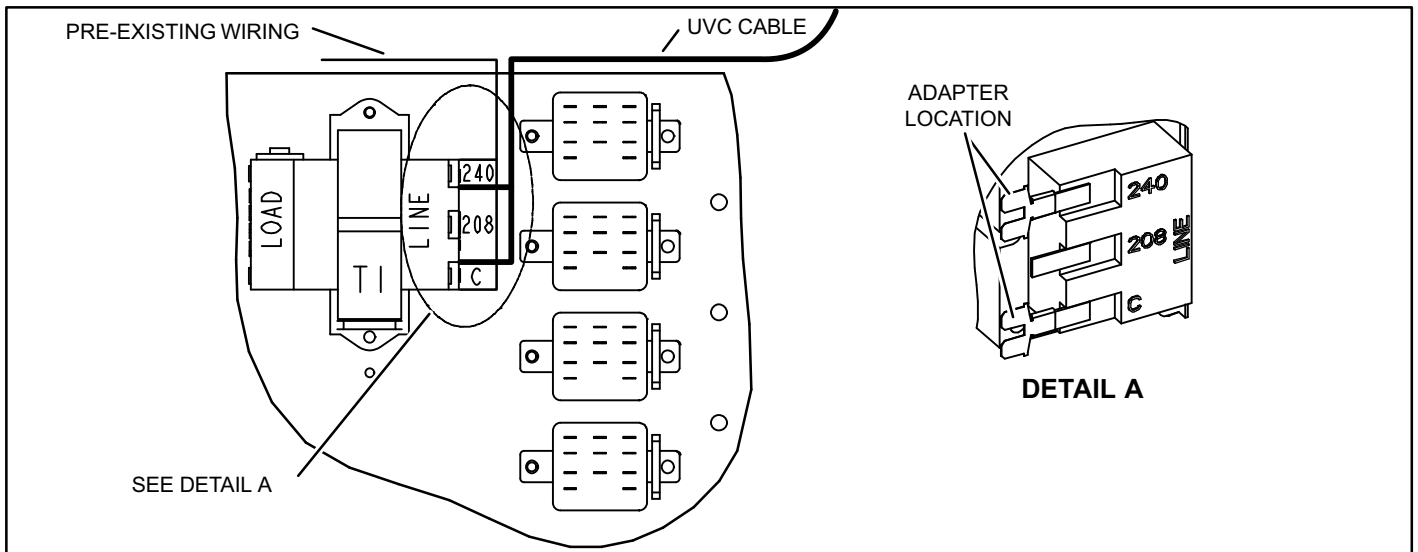

Figure 6. Connect cable to transformer T1 (230 Volt units)
A For all 230V rooftop models, connect the black and white conductors of the UVC cable to transformer T1 using (2) quick-connect adapters included in the kit (see figure 6).